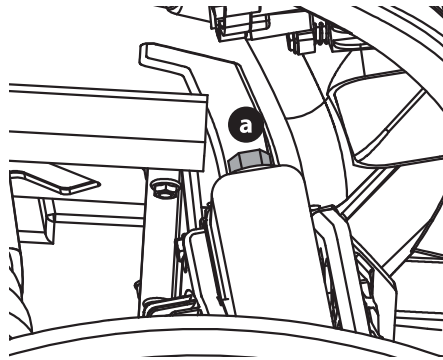

Figure 34
2. Remove the bleeder screw (a) on the radiator, fill the radiator and when fluid begins to come out of the bleeder screw hole, replace the bleeder screw (a). The bleeder screw (a) can be accessed via the front right wheel well (Figure 34).